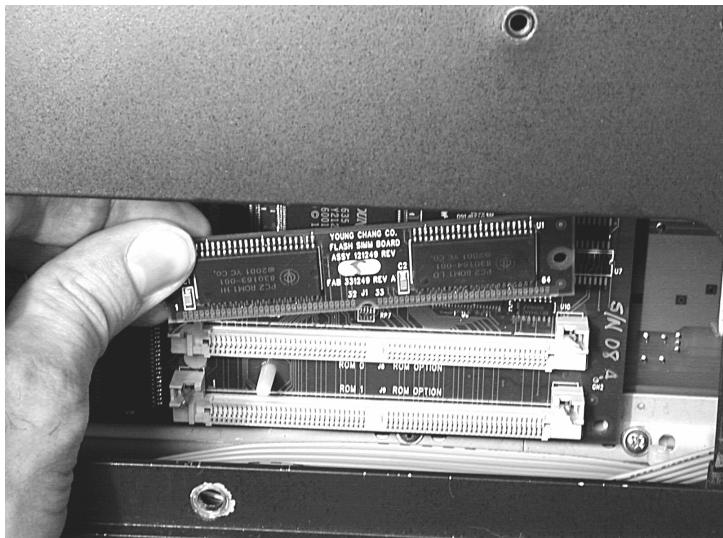

Figure 7 Proper orientation of option board
2. Grasp the board as shown in Figure 7, so that the chips face *toward* you when you insert the connecting edge of the board into the socket. Notice the semi-circular notch at the center of the connecting edge. This notch aligns with a key on the SIMM socket, and ensures that you position the board correctly in the socket.